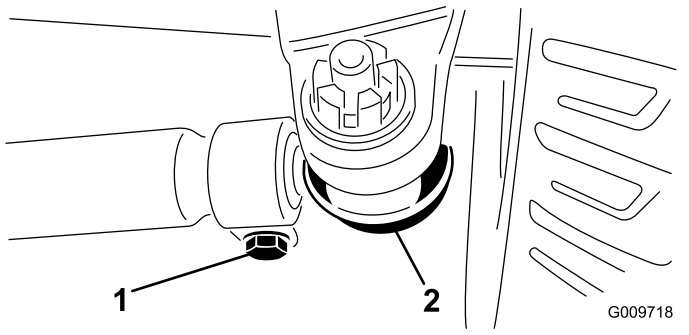

Figure 98
3. To adjust the toe-in, remove the cotter pin and the nut from either tie-rod ball joint (Figure 98).
5. Loosen the clamps at both ends of the tie rods (Figure 98).